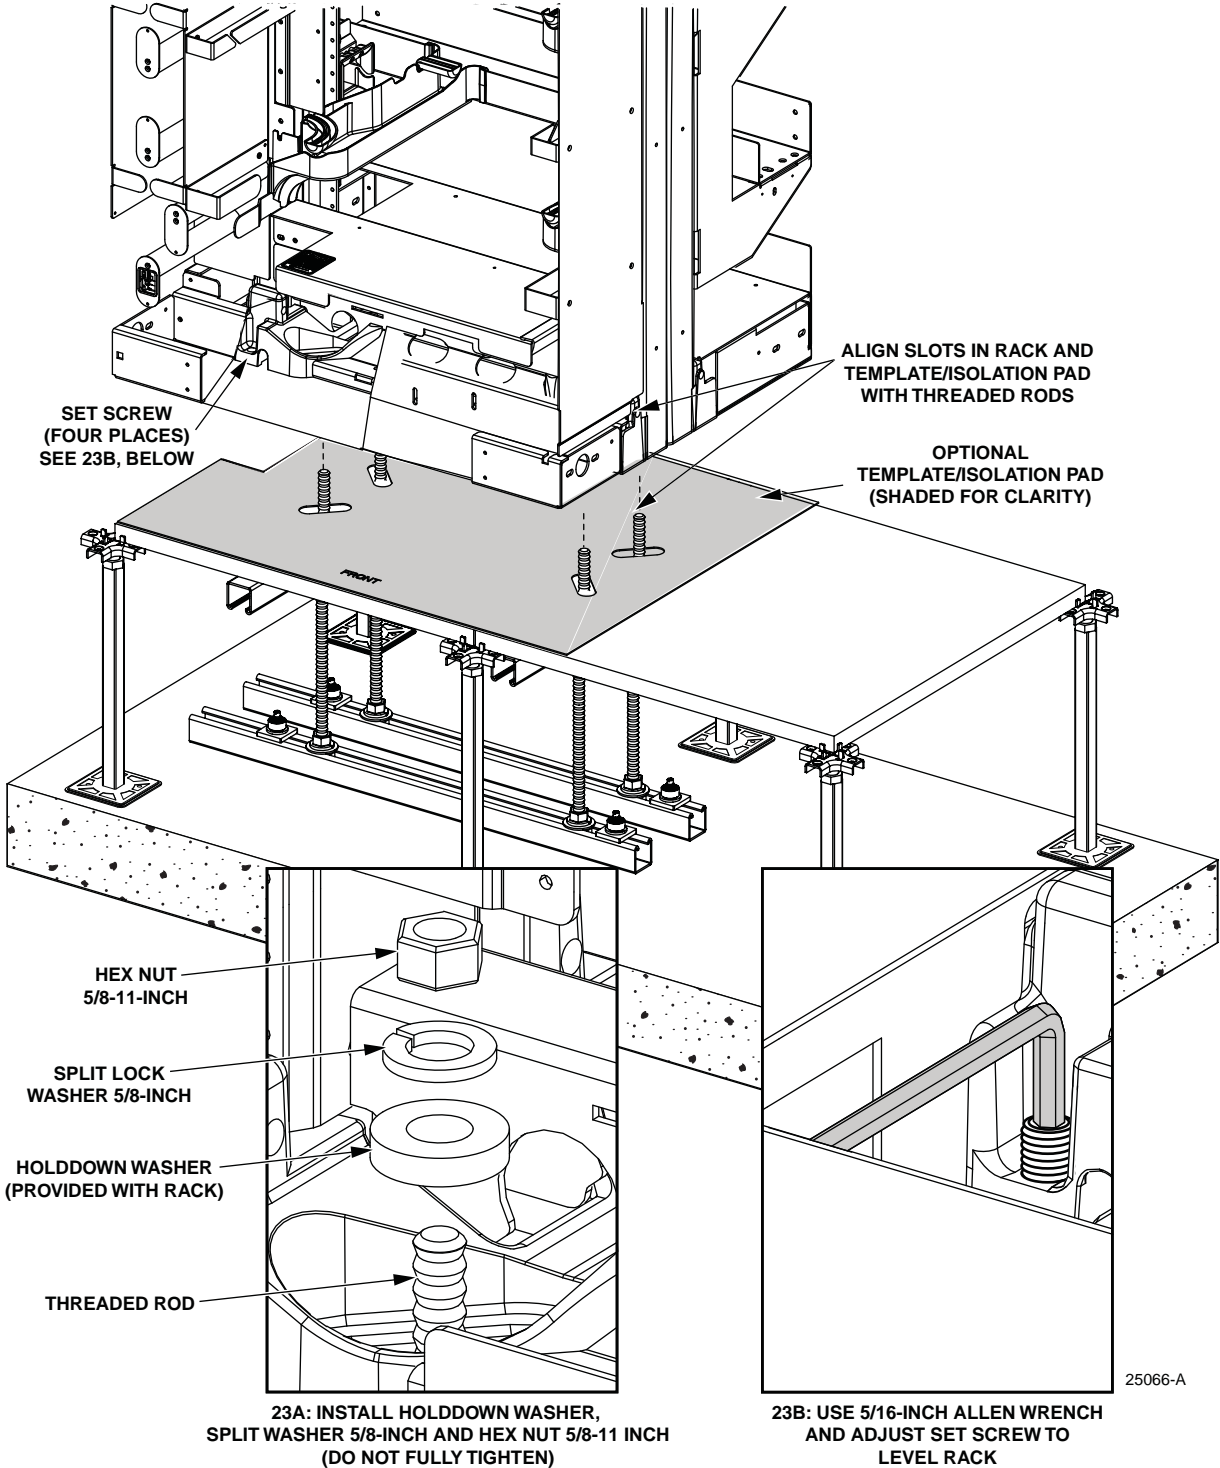

Figure 23. Positioning Frame on Optional Template/Isolation Pad and Floor Tile
22. Position the frame on the optional template/isolation pad and floor tile. Install hardware (four places). Do not fully tighten (23A). Use 5/16-inch allen wrench and adjust set screws (4) to level rack. Refer to Figure 23.